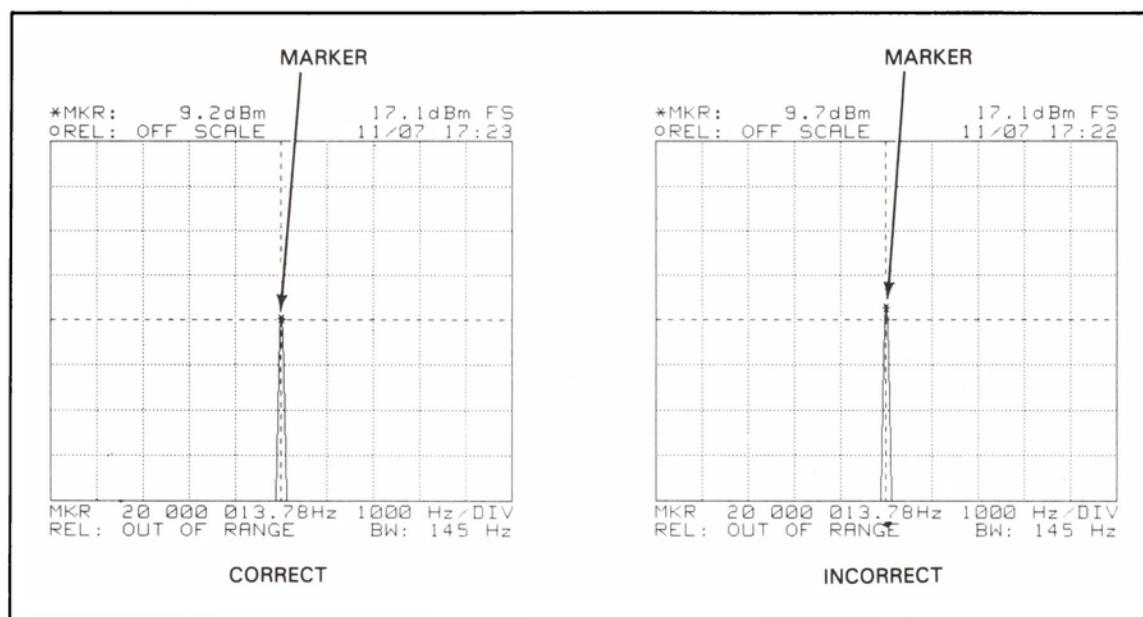

Figure 7-3. Frequency Flatness Test Adjustments
- Adjust the -hp- 3325A amplitude until the marker is at center graticule on the -hp-3582A (See Figure 7-3).